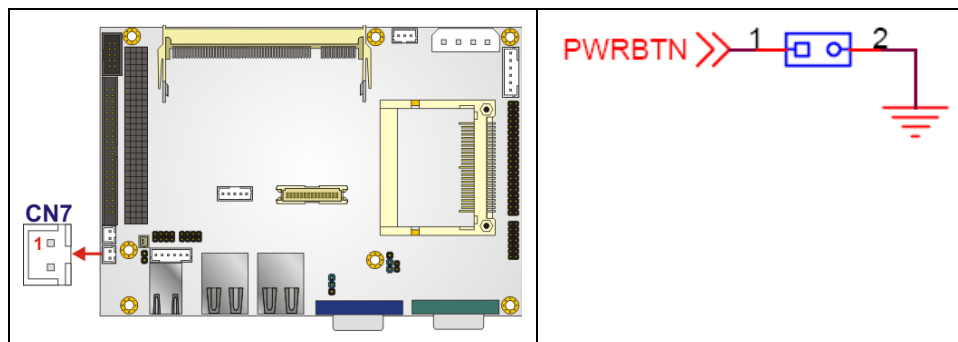

Figure 4-11: Power Button Connector Location
- CN Location:** See Figure 4-11